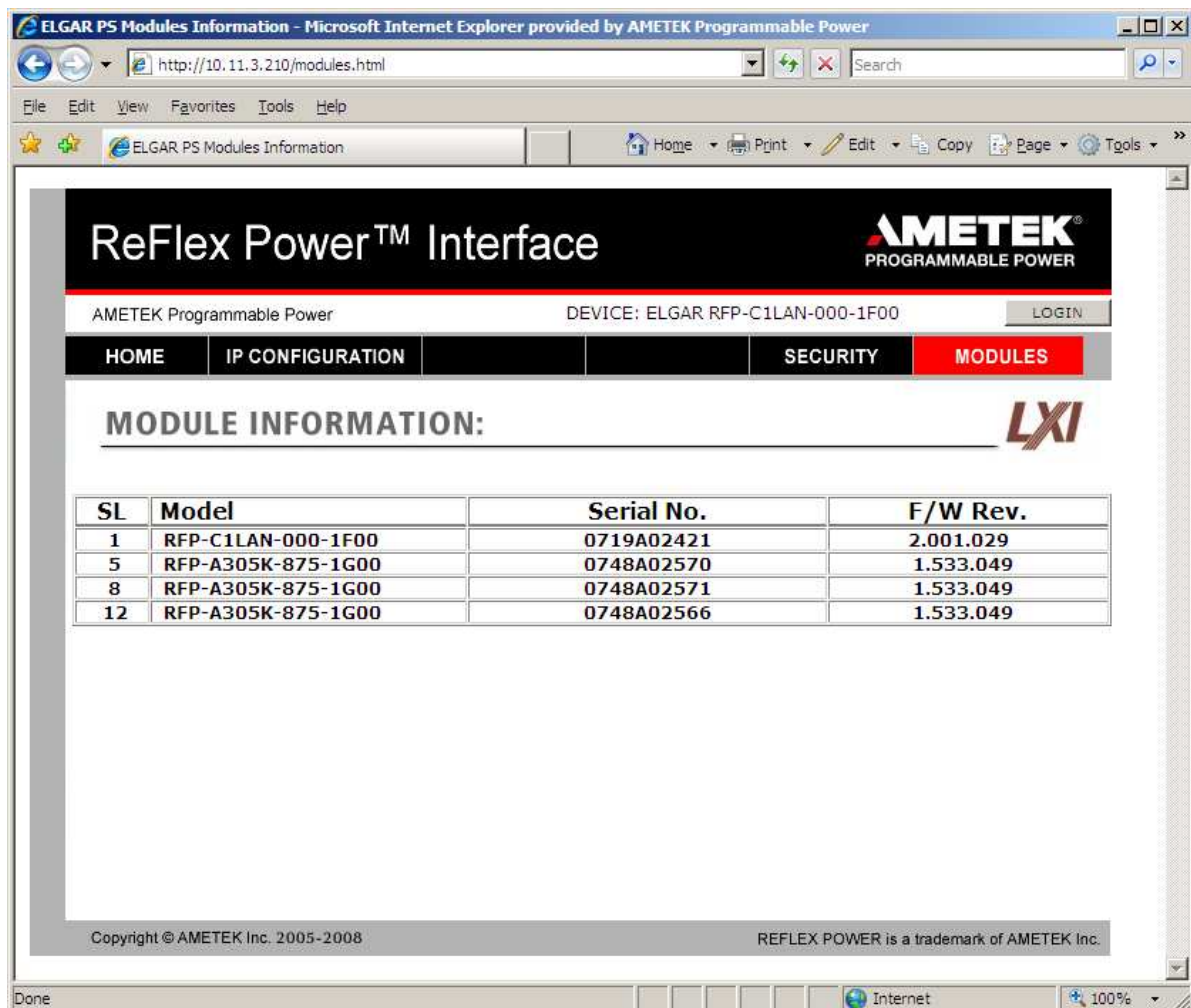

Figure 2-12. MODULES Page Showing Installed Power Modules
Click the MODULES tab to reveal the “address” or Slot Location (SL), the model number, the serial number and the firmware revision of the modules that are installed in the system. (Figure 2-12 shows a system with the ReFlex Power™ Controller module in Mainframe slot 1, and three AC power modules, in slots 5, 8, and 12).